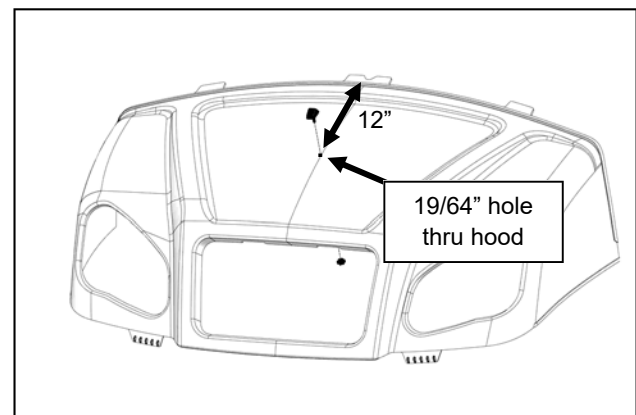

Fig. 2.1
- 2.1 Measure 12" from the rear of the hood, centered left-to-right, and drill a 19/64" (.297") hole into the Carryall hood. See Figure 2.1.